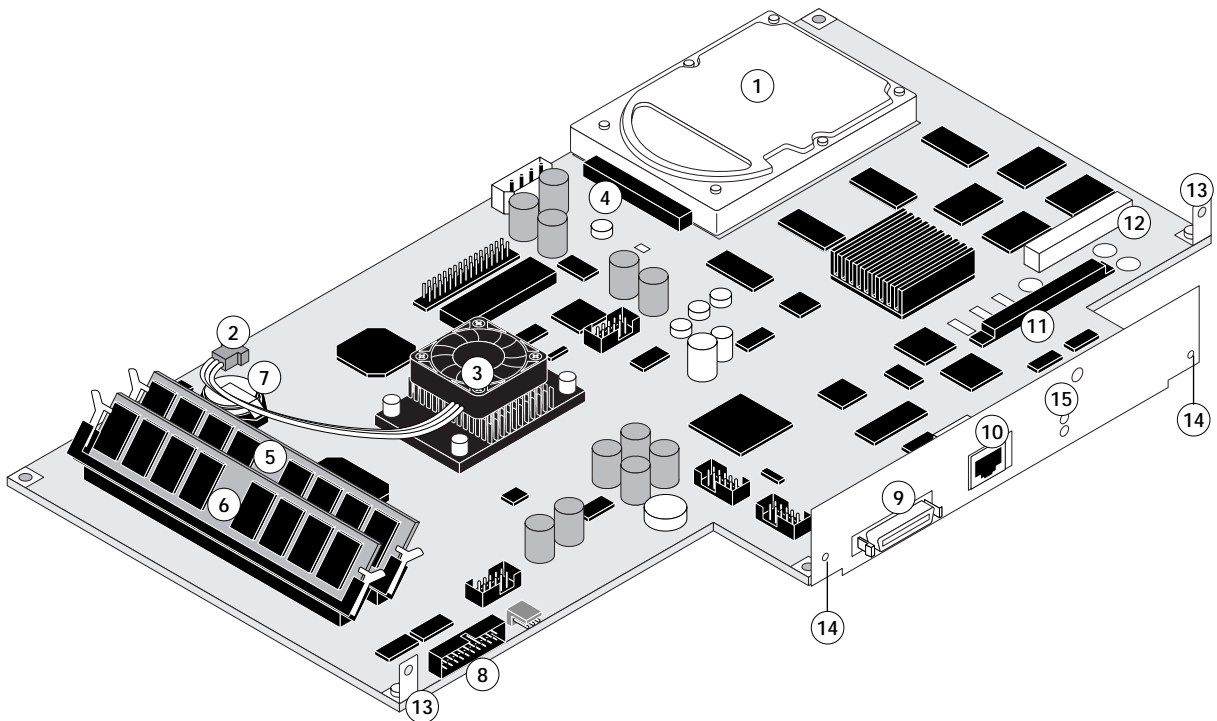

FIGURE 3-4 Fiery X3e board
3. Make sure that all cables and DIMMs are properly aligned and well seated on their Fiery X3e connectors. For connector and DIMM socket locations on the Fiery X3e, see Figure 3-4 on page 3-9.
The custom Fiery X3e board has a Celeron CPU that controls the video image data transferred to and from the copier. The Fiery X3e board provides the Ethernet networking interface, controls hard disk drive functions, and handles the communication between the Fiery X3e and external devices. It has two DIMM sockets that hold a total memory of 192MB (upgradable to 384MB). See Figure 3-4 on page 3-9 and also “DIMMs” on page 3-12.
1. Locate the battery on the Fiery X3e (see Figure 3-4 on page 3-9).